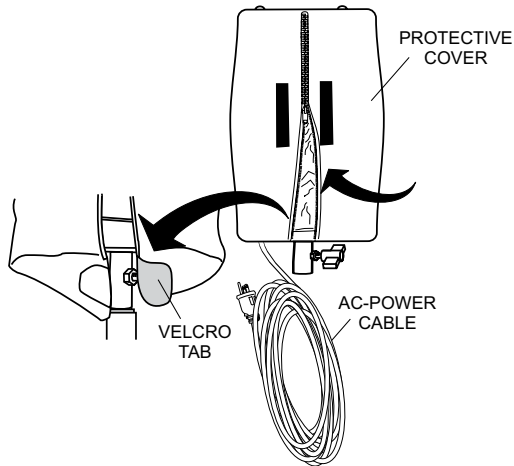

Figure 19. Zipping the Protective Cover
- Unhook lamp AC power cable from washer eyelet (Figure 11). Fully zip protective cover and fold velcro tab in place (Figure 19).